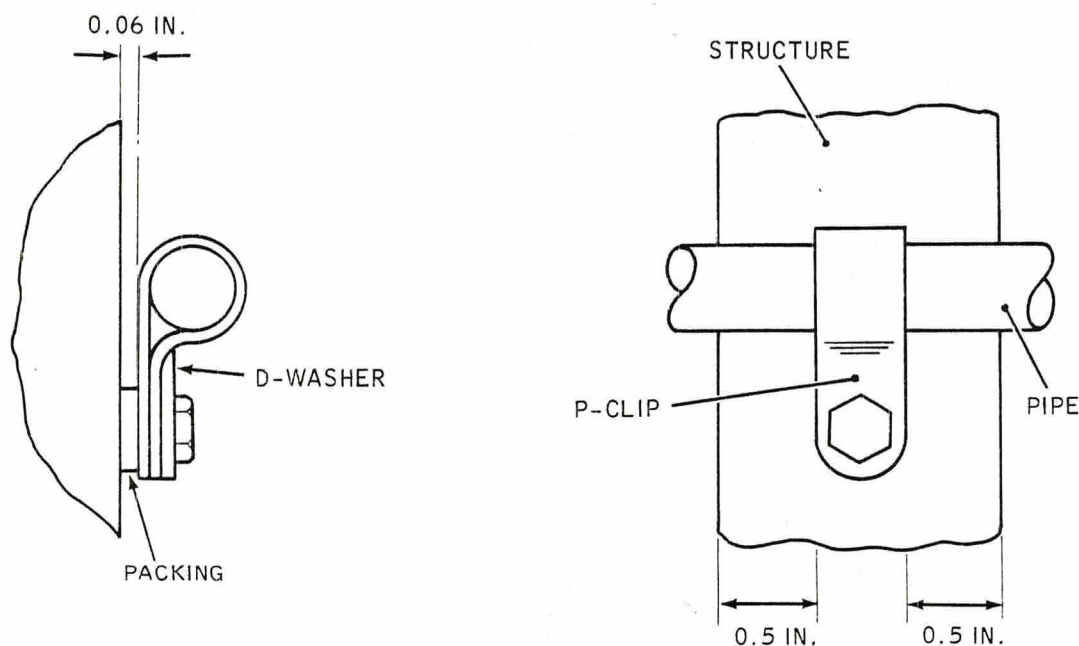

FIGURE 2
- (b) Sheet 2. Item 3. Figure 2.